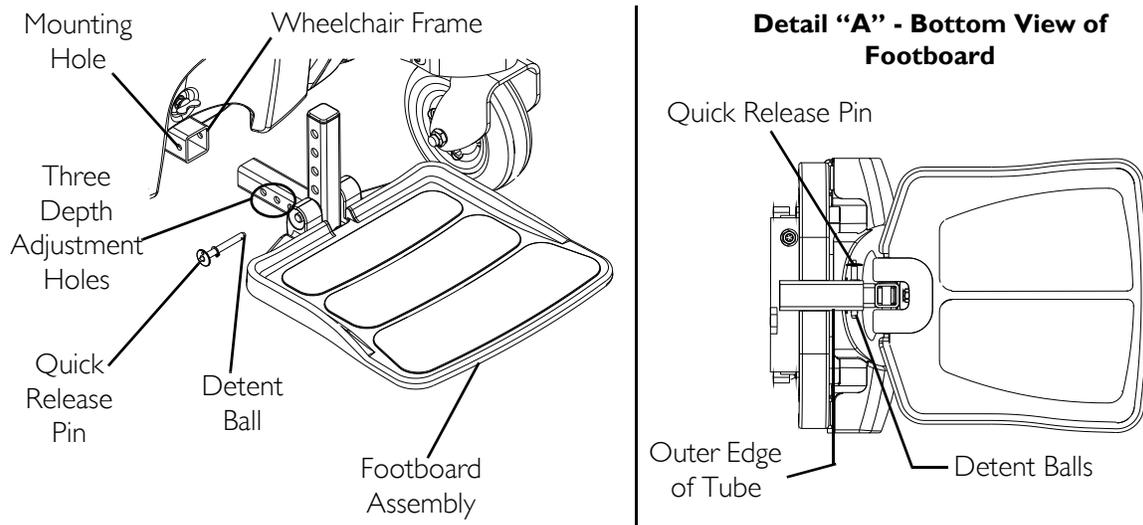

FIGURE 9.3 Adjusting the Footboard Assembly - Depth
2. Install the quick release pin by depressing the button while sliding the pin in. Make sure the detent balls are fully released beyond the outer edge of the tube (Detail "A" of FIGURE 9.3).
NOTE: For this procedure, refer to FIGURE 9.3.
3. Install the quick release pin. Make sure the detent balls are fully released beyond the outer edge of the tube (Detail "A" of FIGURE 9.3).